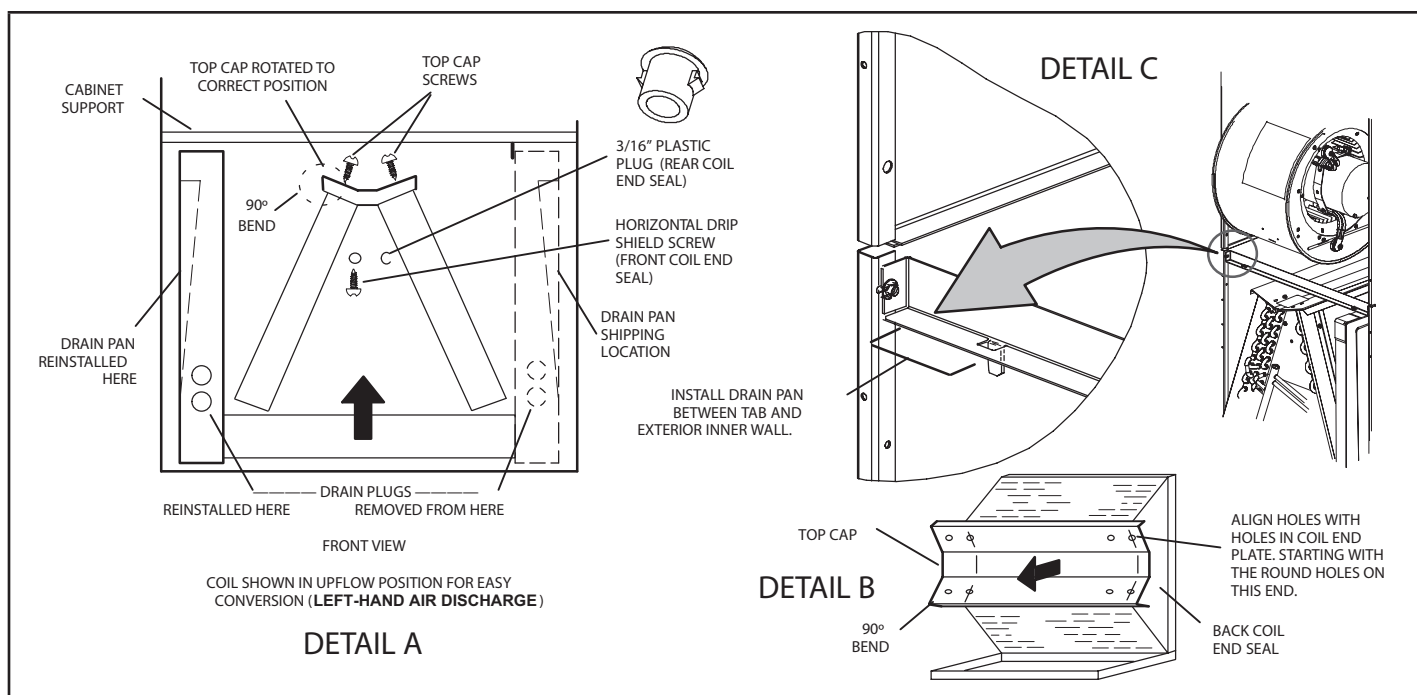

FIGURE 11. Field Modification for Left-Hand Discharge
- 7 - From the upflow position, flip cabinet 90° to the left and set into place. Replace blower assembly. Secure coil in place by bending down the tab on the cabinet support rail as illustrated in figure 11.